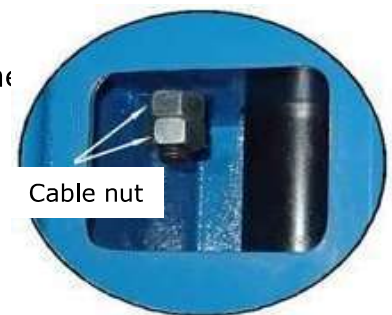

Fig. 37
1. Adjustment of synchronous cable (See Fig. 37)